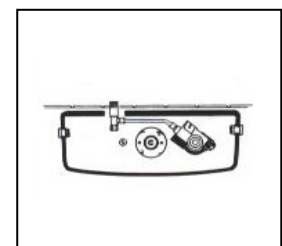

Fig 7
10) Connect the water to the inlet valve using the 3/8 copper tube supplied, this may need to be bent depending on the amount your cistern tap project into the cistern. (See fig 7) Fit the cistern lid and cistern button.